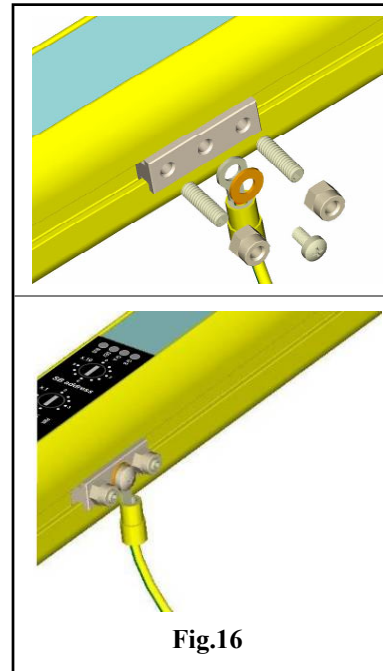

Fig.16
The **receiver (RX)** must be connected to the functional earth. To do this use the fastening kit provided for earthing (see Fig. 16) and connect it to a cable with a cable cross section of at least 2.5 mm².
If you are connecting evaluation devices that do not have safe separation, the **emitter (TX)** must be operated in protection class 1 and must be connected to the protective earth. To do this use the fastening kit provided for earthing (see Fig. 16) and connect it to a cable with a cable cross section of at least 2.5 mm².